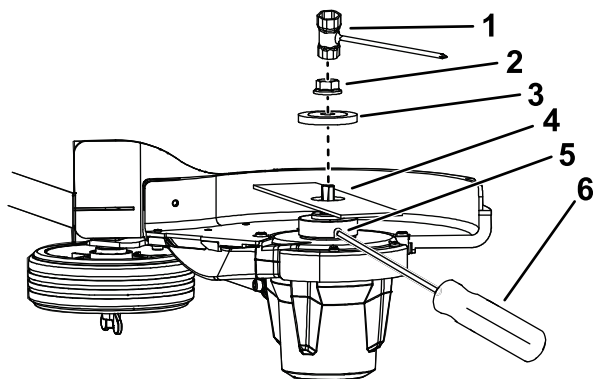

Figure 14
2. Secure the blade so that it cannot spin by inserting a screwdriver (not included) to the slot in the edger head as shown in Figure 14.
4. Remove the blade washer and the old blade (Figure 14).